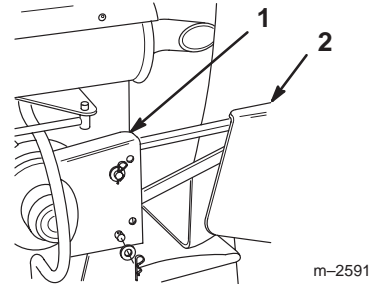

Figure 38
1. Remove belt covers from tractor and snowthrower (Fig. 38),
7. Install belt covers on tractor and snowthrower (Fig. 38),